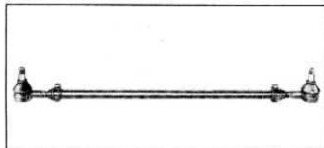

Fig. 5—Alignment of Tie Rod Ends
1. If tie rod ends were removed, install ends on tie rod making sure both ends are threaded an equal distance into the tie rod and that both ends are in the same plane (fig. 5).